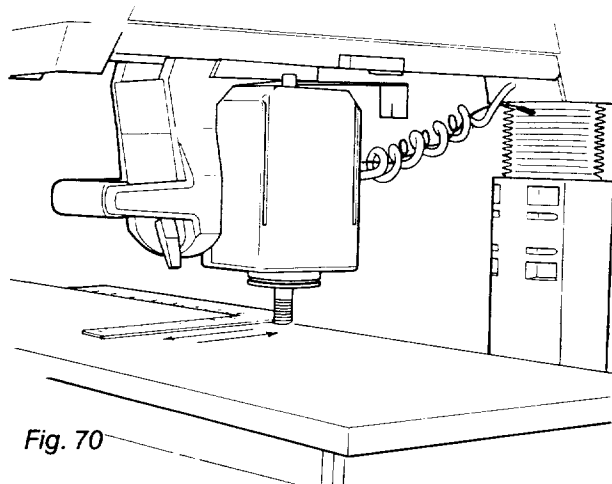

Fig. 70
7. Lay a framing square on the *front table* with the long edge along the back of the *table* and the short edge alongside the *motor arbor*. (Figure 70)
8. Move the framing square toward the *motor arbor* until the arbor and square touch each other. (Figure 70)
If the *motor arbor* moves away from the square or tries to “walk” on top of it, go to step 11. (Figure 70)